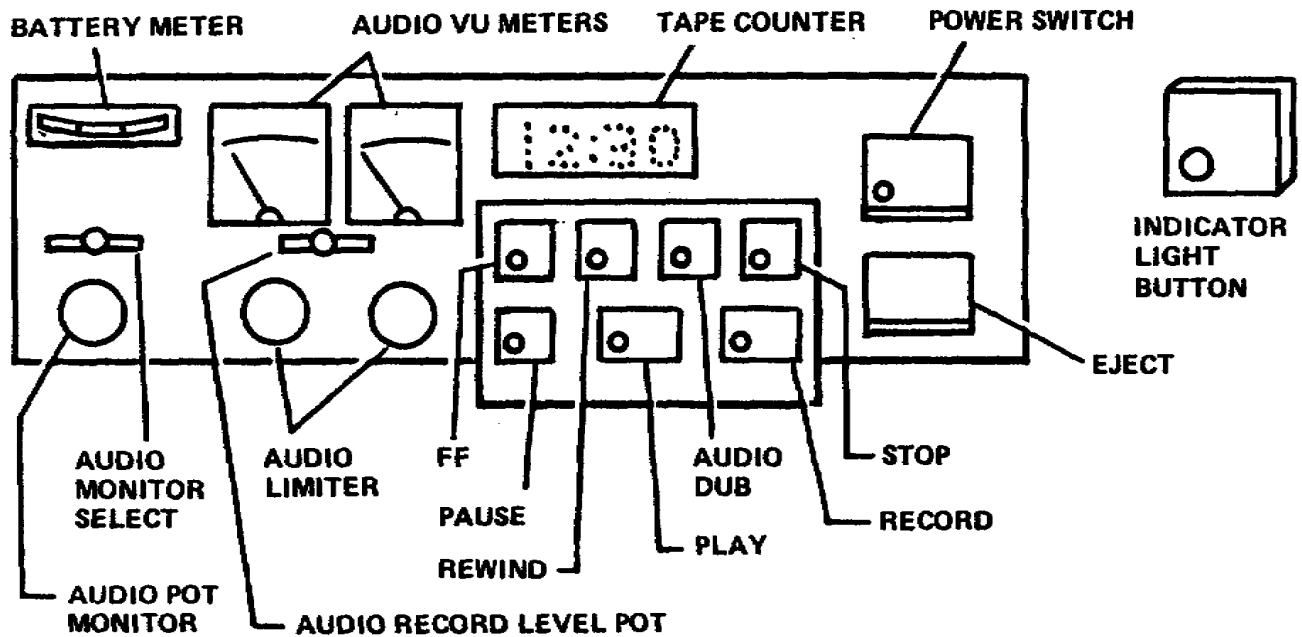

Figure 1-10. Operational control of VR
(1) If the EJECT button does not function when the power is off, first switch on the power, then press the EJECT button, and the cassette housing cover will lift gently.
(2) After securing the cassette, press the housing cover down by hand at the front edge.
4. Operational controls and indicator meters located on the front panel are designed for ease of operation for the operator. Refer to Figure 1-10.